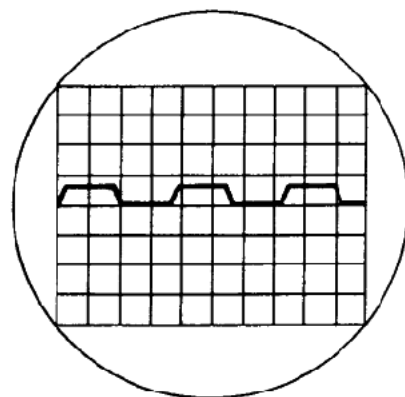

Fig. 11
11. Select **volts/power**, **400Hz** filter and **sine wave** input at a **frequency** of 1kHz and adjust **oscillator level** for 100W output. Select **1Ω load**. the output should clip equally on both halves of the waveform as shown in Fig. 11.